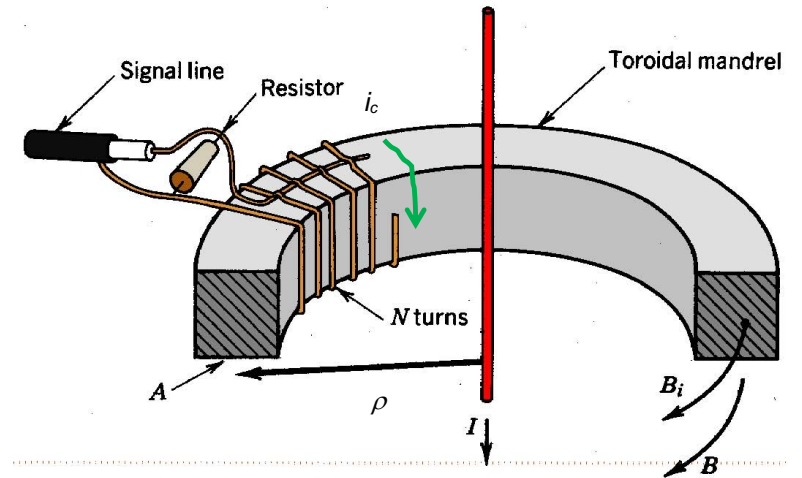

Figure 9.58 Rogowski loop—self-integrating current probe.
- More rigorously, the field B_i , in Fig 9.58